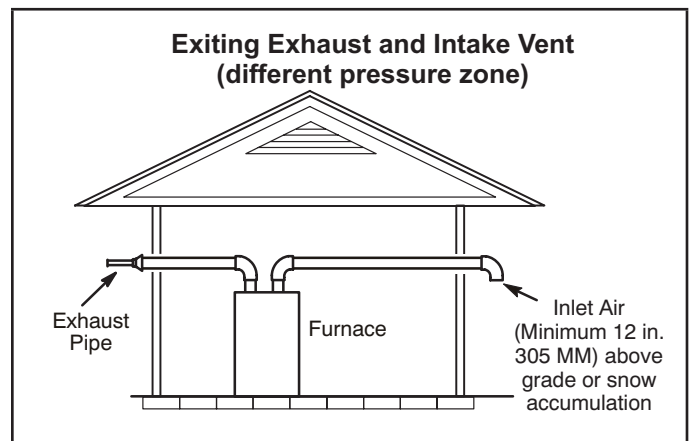
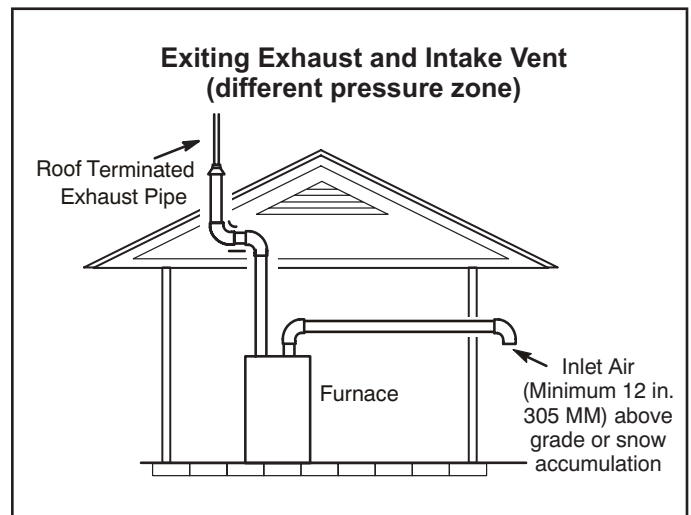

FIGURE 35
FIGURE 36
- 1 - Vent terminations are not required to be in the same pressure zone. You may exit the intake on one side of the structure and the exhaust on another side (FIGURE 35). You may exit the exhaust out the roof and the intake out the side of the structure (FIGURE 36).